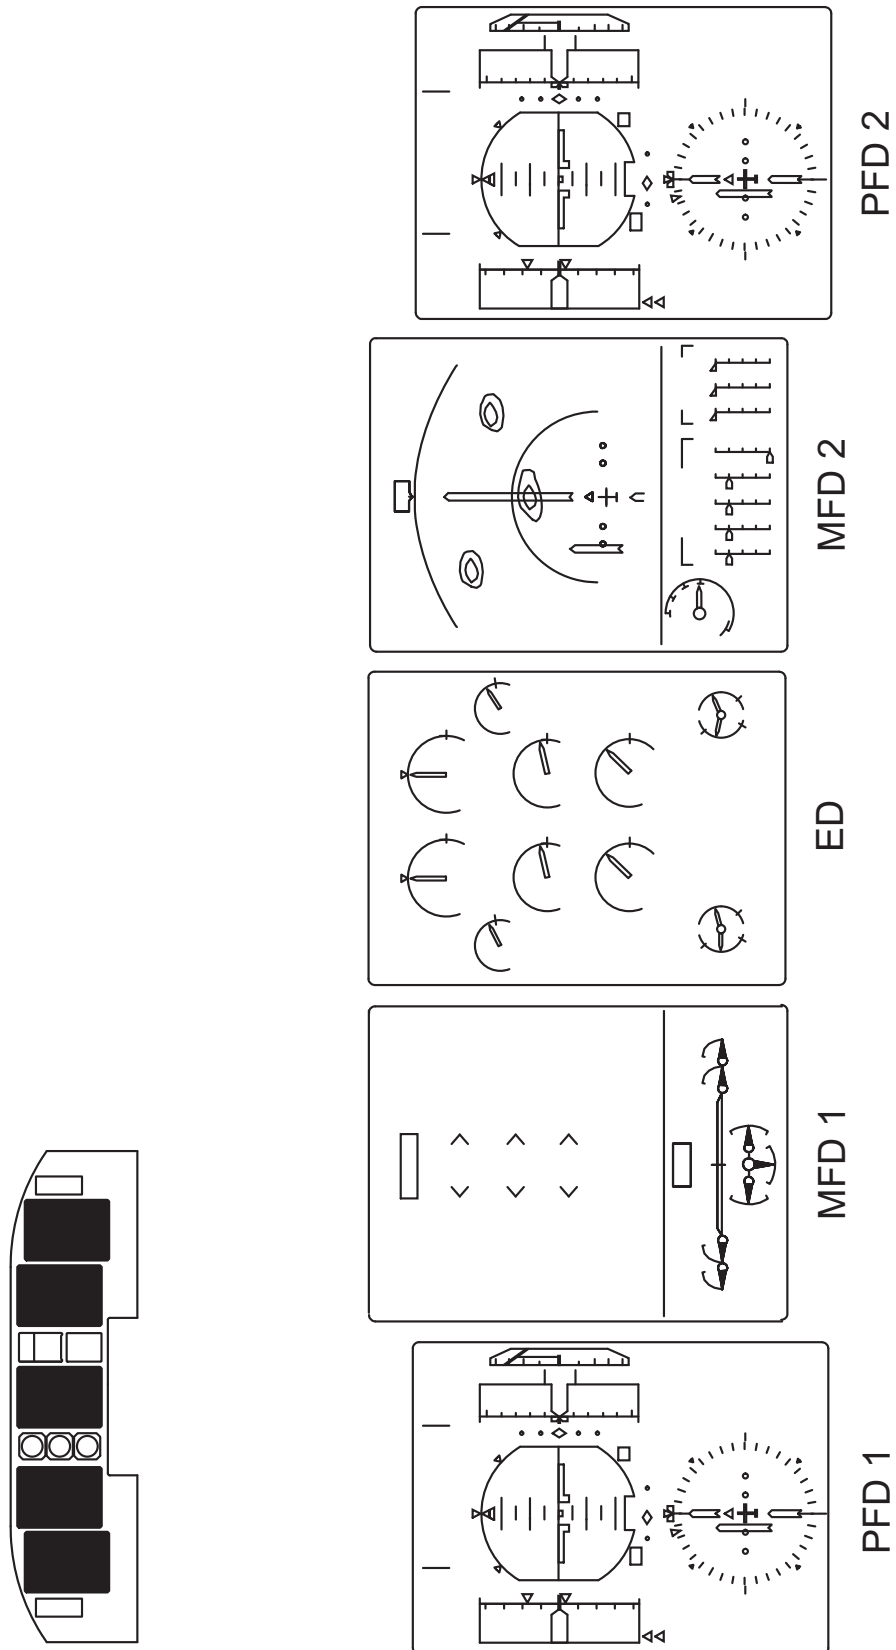

Figure 12.12-38 MFD1 Selected to ENG Page
- ENG (Figure 12.12-38, 12.12-39)